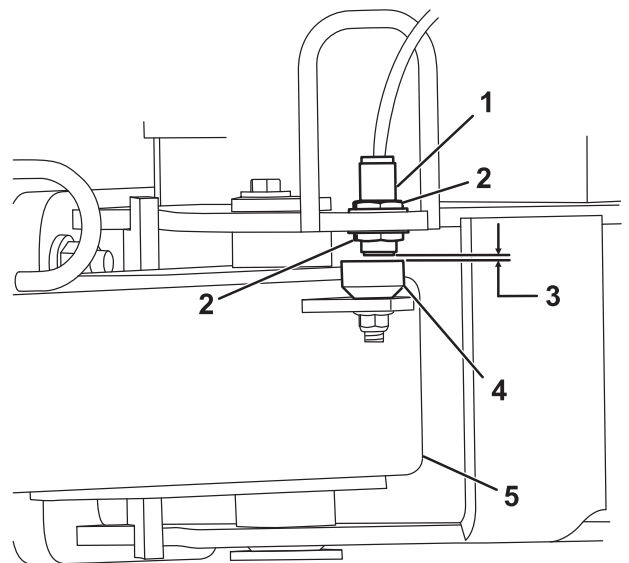

Figure 6
5. Loosen the jam nuts securing the proximity switch to the frame and lower the switch until it is 2.6 to 4.0 mm (0.10 to 0.16 inch) from the sensing plate on the hitch tongue (Figure 6). Tighten the jam nuts to secure the adjustment.